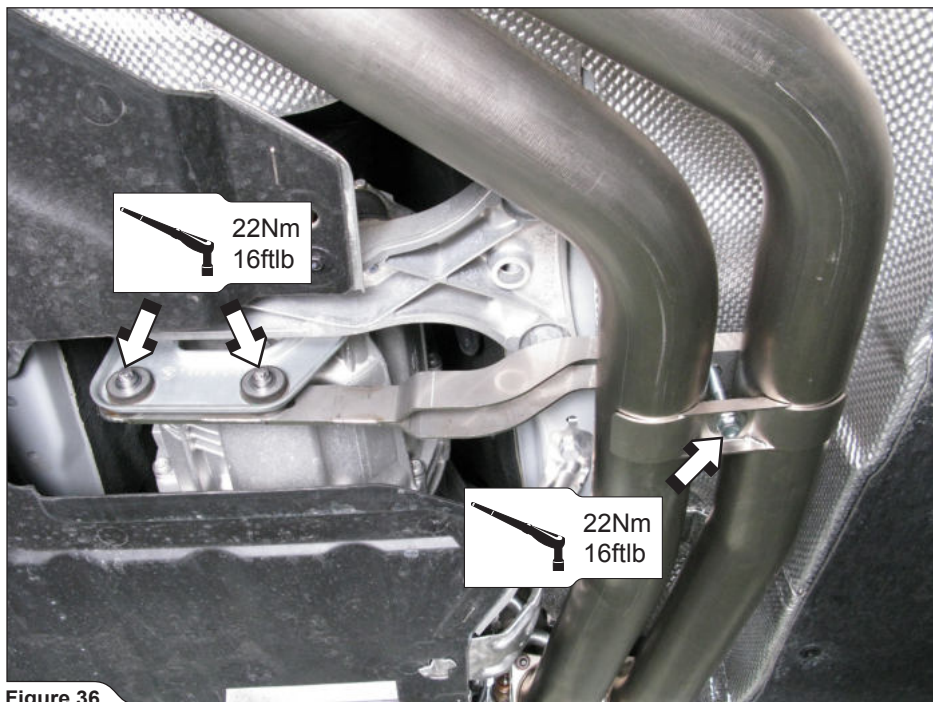

Figure 36
16. **For Evolution:** tighten the Evolution Link Pipes' bracket bolts to the specified torque (**Figure 36**).